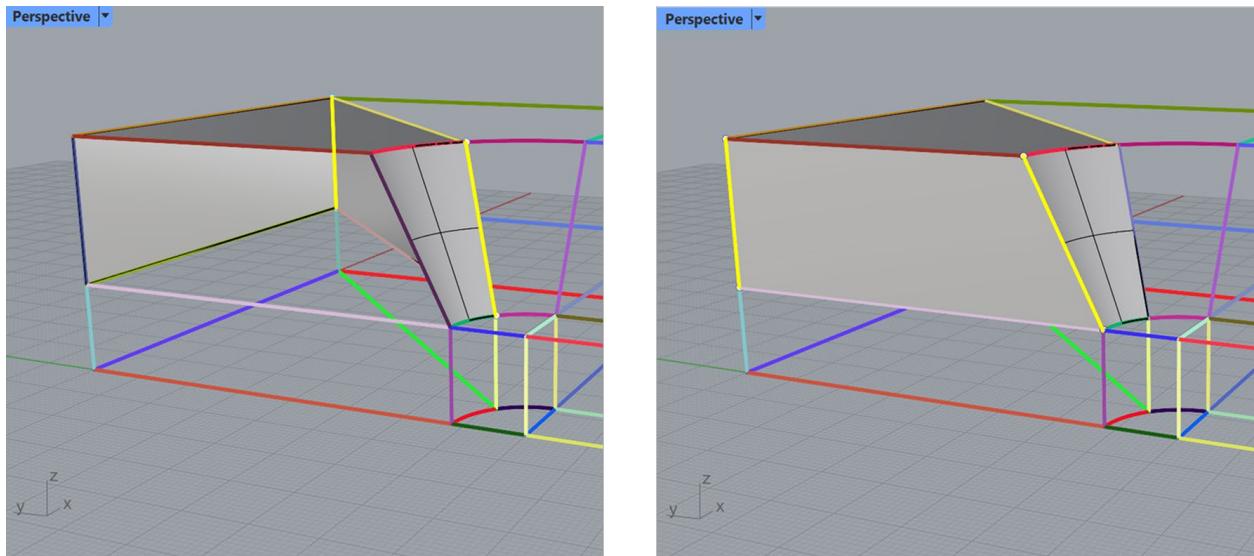

Figure 43: Building surfaces of the first solid.
15. Now, select only pairs of lines/curves composing the remaining surfaces of the first solid and **_Loft** them. In total, six sides must be created as in Figure 43.